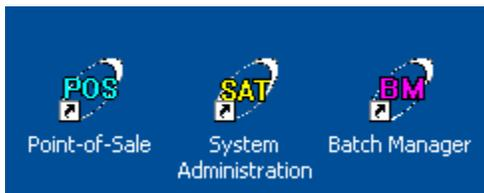

Figure 2.15
12. Upon a successful installation, three shortcut icons to the POS program (POS – Point-of-Sale, SAT – System Administration, and BM- Batch Manager) will appear on the PC desktop (Figure 2.15). The version number can also be verified by signing on to the SAT, POS, or Batch Manager and clicking **'Help'**, **'About PCC OTC'** from the menu at top of the screen.